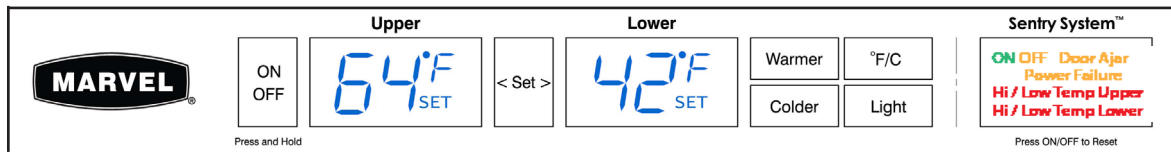

Figure 5
- 1) If Sentry System™ LED is flashing amber (see Figure 5) the appliance is on. Simply press and release “ON/OFF” button to stop the flashing LED.
- 2) If the interior light is working but Sentry System™ display is blank push and hold the “ON/OFF” button for five (5) seconds to start your appliance.